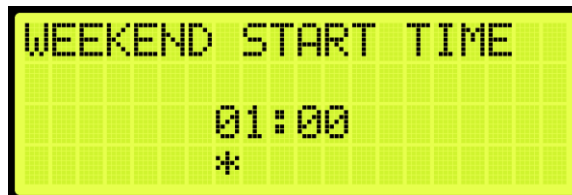

Figure 170: WEEKEND START TIME Menu
15. From the WEEKEND START TIME menu, set the start time of the hall call security (See Figure 170).